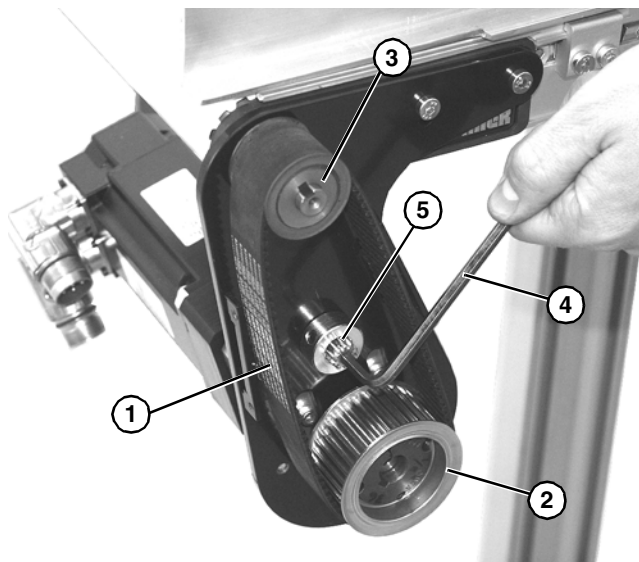

Figure 10
- Install belt (**Figure 10, item 1**) onto drive pulley (**Figure 10, item 2**) and driven pulley (**Figure 10, item 3**).
- Use a hex wrench (**Figure 10, item 4**) to turn tensioner adjustment fitting (**Figure 10, item 5**) to tighten belt.